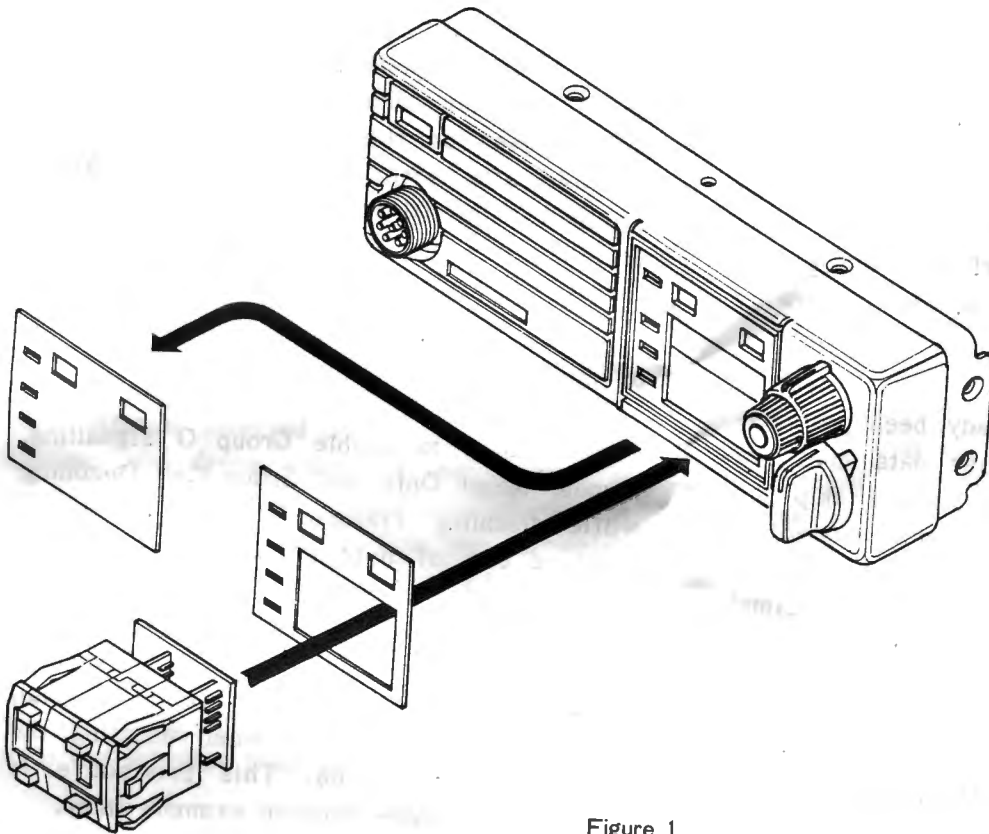

Figure 1
- (1) Remove the five screws affixing the bottom cover of the transceiver, and remove the cover.
- (2) Referring to Figure 1, remove the metal plate from the front panel of the transceiver, and install the supplied plate in its place. Then press the digital selector into the hole until the latches click into place.